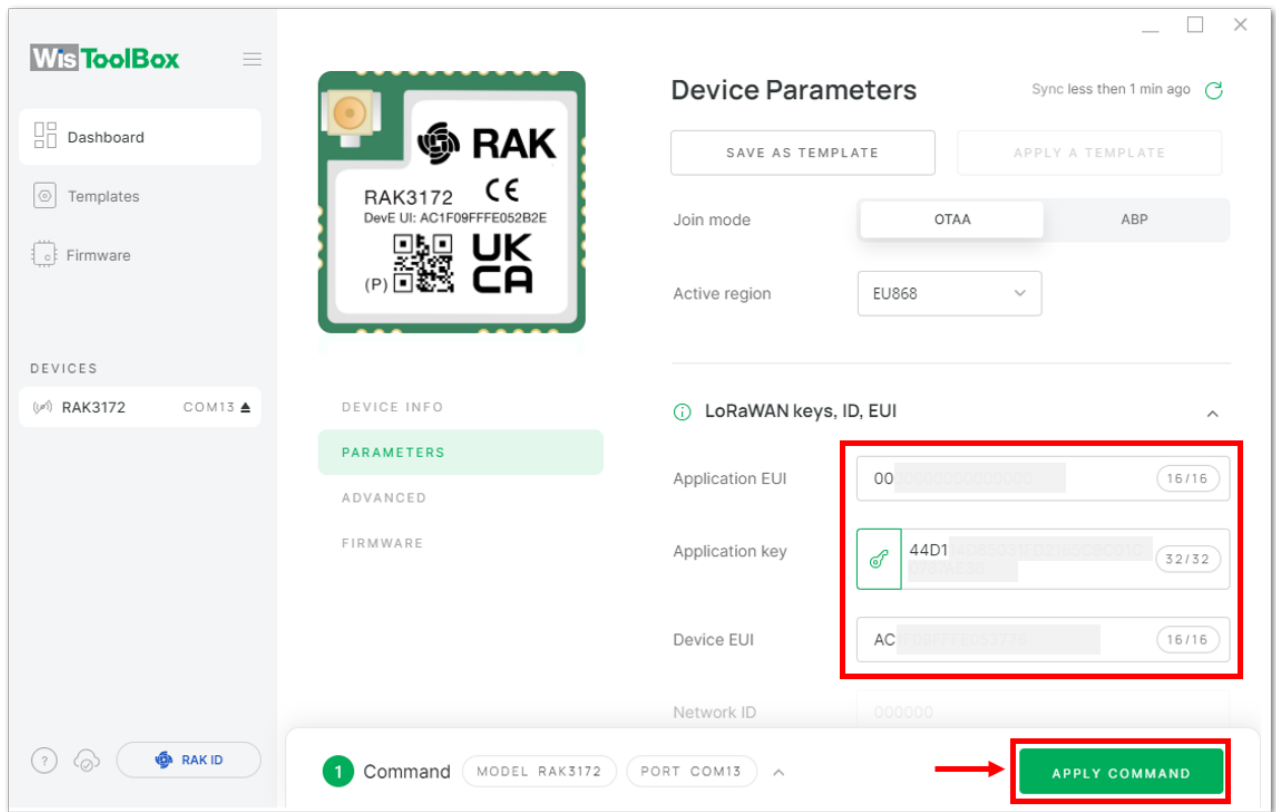

Figure 75: Used credentials from your console in WisToolBox dashboard
8. Then go back to the console where your RAK3172 end-device is created previously. Copy the credentials from there since it will be used in the WisToolBox dashboard. Once encoded into the dashboard, click **APPLY COMMAND** to update your device, as shown in **Figure 75**.